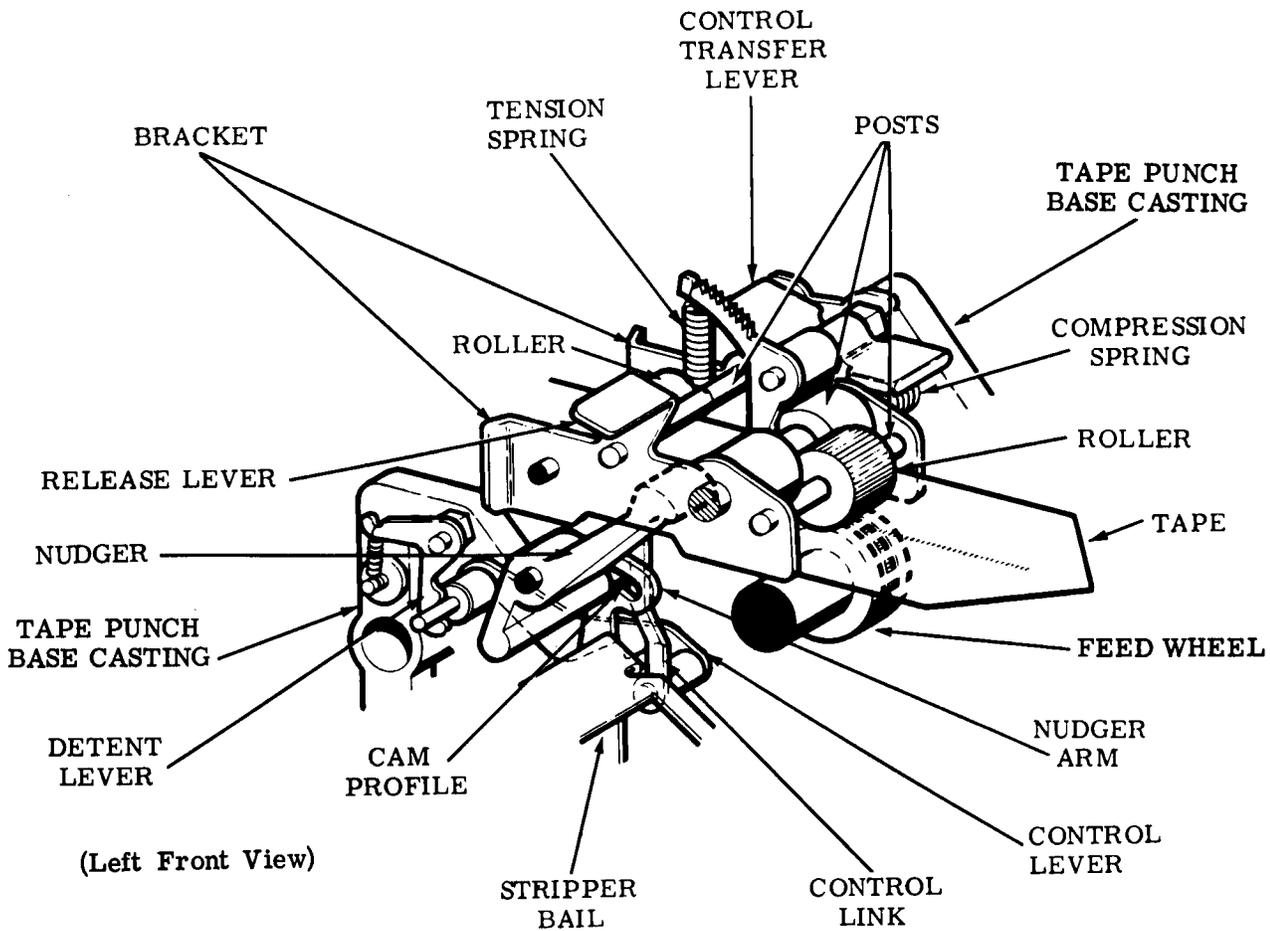
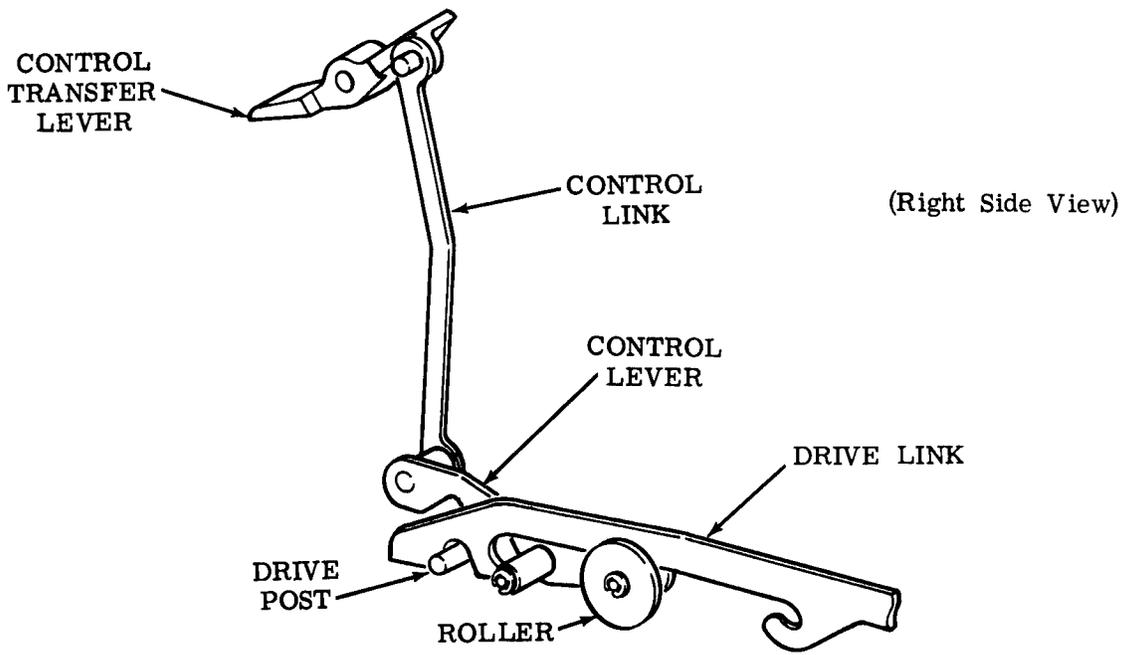

Figure 6 - Tape Guide Assembly (Tape Feed Mechanism)
Figure 8 - ON-OFF Mechanism
4.16 The tape guide mechanism (Figure 6) consists of a bracket, two rollers, three posts, a wheel, and a compression spring held together by retainers. A tension spring biases the tape guide mechanism in a clockwise direction. The knurled roller settles against the knurled feed wheel with a predetermined force. It is the combination of force and the knurled wheels that provides adequate tape spacing. The tape guide assembly is shaped in the form of a funnel to provide easy tape threading. A push-button (Figure 8), located in the cover lid, when pushed down against a tab located on the REL bracket, disengages the tape guide assembly from the feed wheel, thereby providing easy tape removal from the tape punch.
6.01 ON-OFF - When the ON pushbutton on the cover is depressed, the control transfer lever operates a control link which in turn rotates the control lever. The control lever has a roller at one end and a detent on the other. The detent engages a drive post while the roller guides the drive link. When the control lever is rotated in the ON mode, the detent disengages from the drive post while the roller pivots downward. The drive link, under spring tension, is pulled downward to engage the drive post. When the OFF pushbutton is depressed, the process is reversed. The control transfer lever operates the control link and then the control lever is operated. The detent on the control lever travels downward to engage the drive post while the roller pivots upward, disengaging the drive link from the drive post (Figure 8).